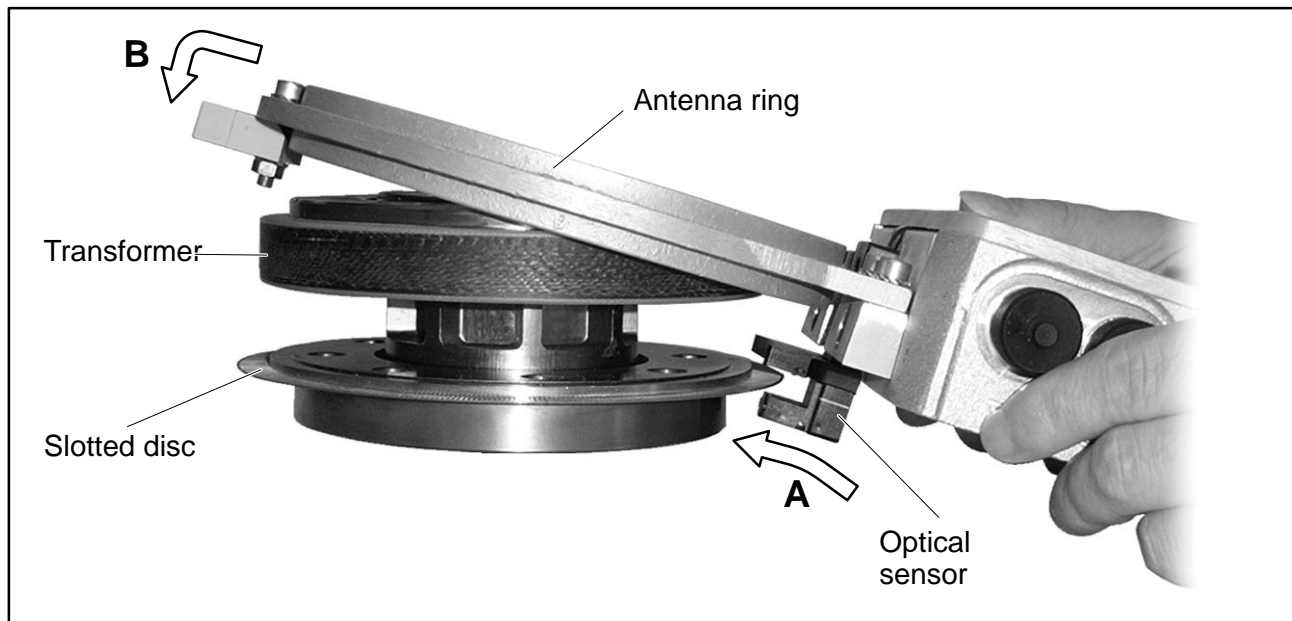

Fig. 4.7: Installing the mounting elements
2. Hold the stator at a slight slant and push it over the rotor until the slotted disc is located in the optical sensor (Step A, Fig. 4.7).
3. Tilt the stator over the rotor until the antenna ring completely covers the transformer (Step B, Fig. 4.7).